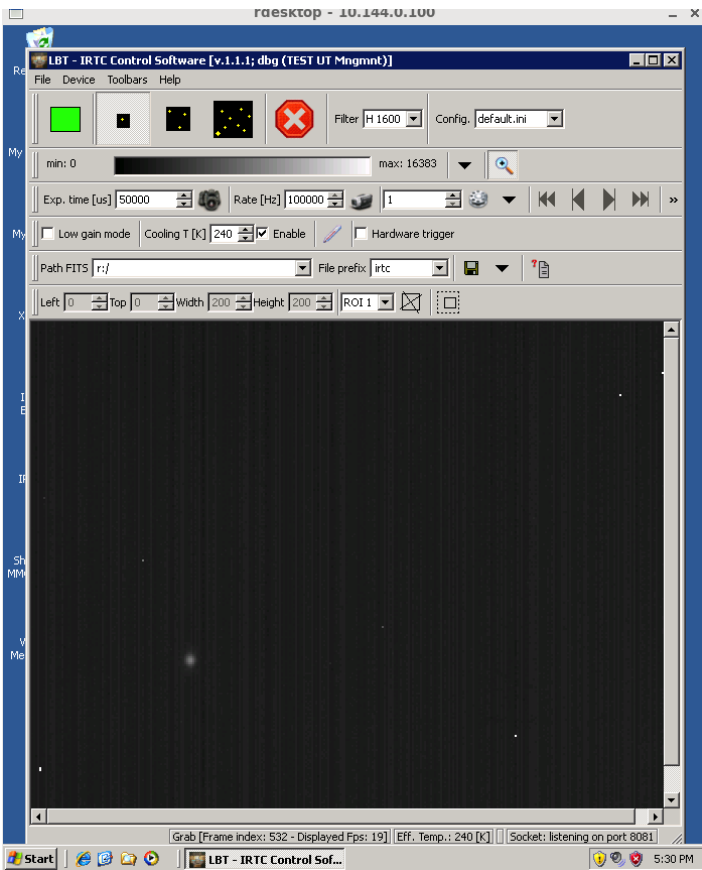

Figure 8 A well-focused PSF in closed-loop (H band, 3x2" FoV)
5. Accept the results	The intensity vs Z position plot is shown . The procedure is guessing what the best Z-stage position is by looking for the maximum in the plot. A window pops up asking to accept the found position: accept it. If in the plot you don't see a clear maximum, it is a safe approach to iterate the procedure from point 4. IRTC image should look like the one in Figure 8